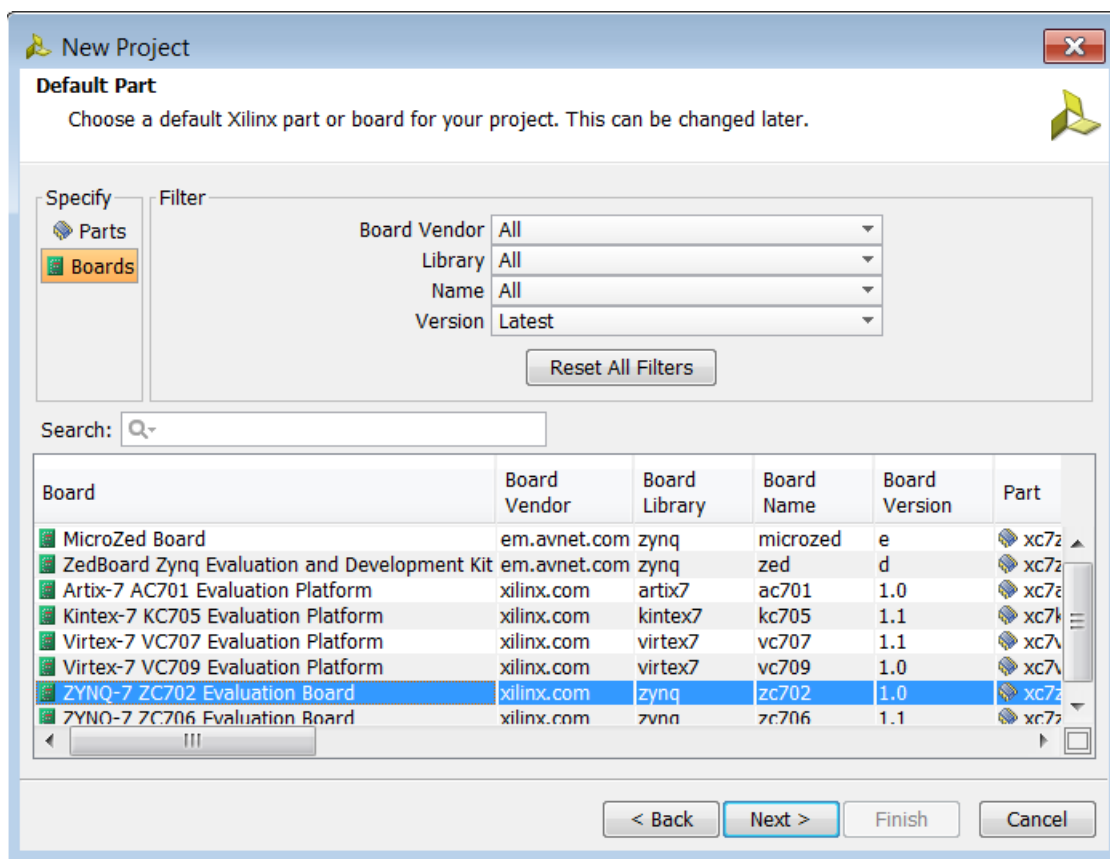

Figure 187: Vivado Project Specification
6. On the Default Part page, under Specify, click **Boards** and select the **ZYNQ-7 ZC702 Evaluation Board**, as shown in **Figure 187**.